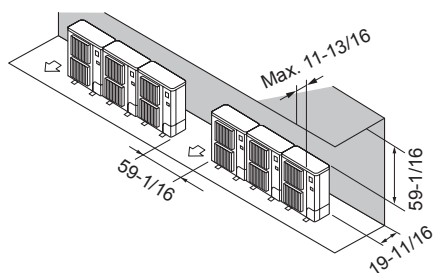

Fig. 2-12
② Obstacles at rear and above (Fig. 2-12)